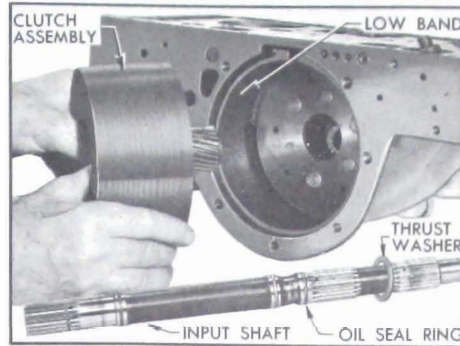

Figure 5-37—Removal of Clutch Assembly
6. Remove the input shaft and clutch hub front thrust washer from the clutch assembly, then remove the clutch assembly. See Figure 5-37.